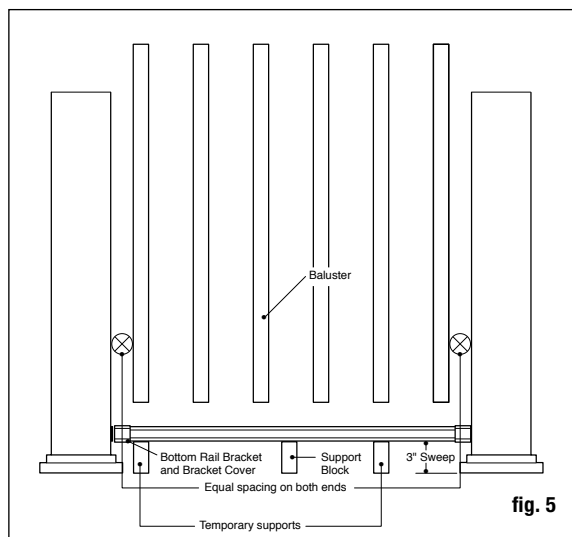

fig. 5
Step 6 Measure the distance between installed post sleeves to determine the length of the top and bottom rails. Place the bottom rail in position next to the posts and adjust so the distance between the first baluster hole and post is greater than 2" and equal on both ends (refer to fig. 5). Mark the rail. Cut the bottom rail. Cut the top rail to the same spacing and length.
Step 10 Place the line rail bracket covers and line brackets on the ends of the top rail. Position the top rail by placing the balusters inside the routed holes, while working from one end to the other. Check the rail for level. Using the line bracket as a guide, mark the screw positions on the post sleeve and rail on both ends. Pre-drill 1/8" pilot holes through the post sleeve and rail. Attach the line bracket to the post sleeve using the #8-15 x 2" - #2 square drive pan head screws and then attach line bracket to rail using #10-16 x 3/4" - #2 square drive pan head self-drilling screws (fig. 5).